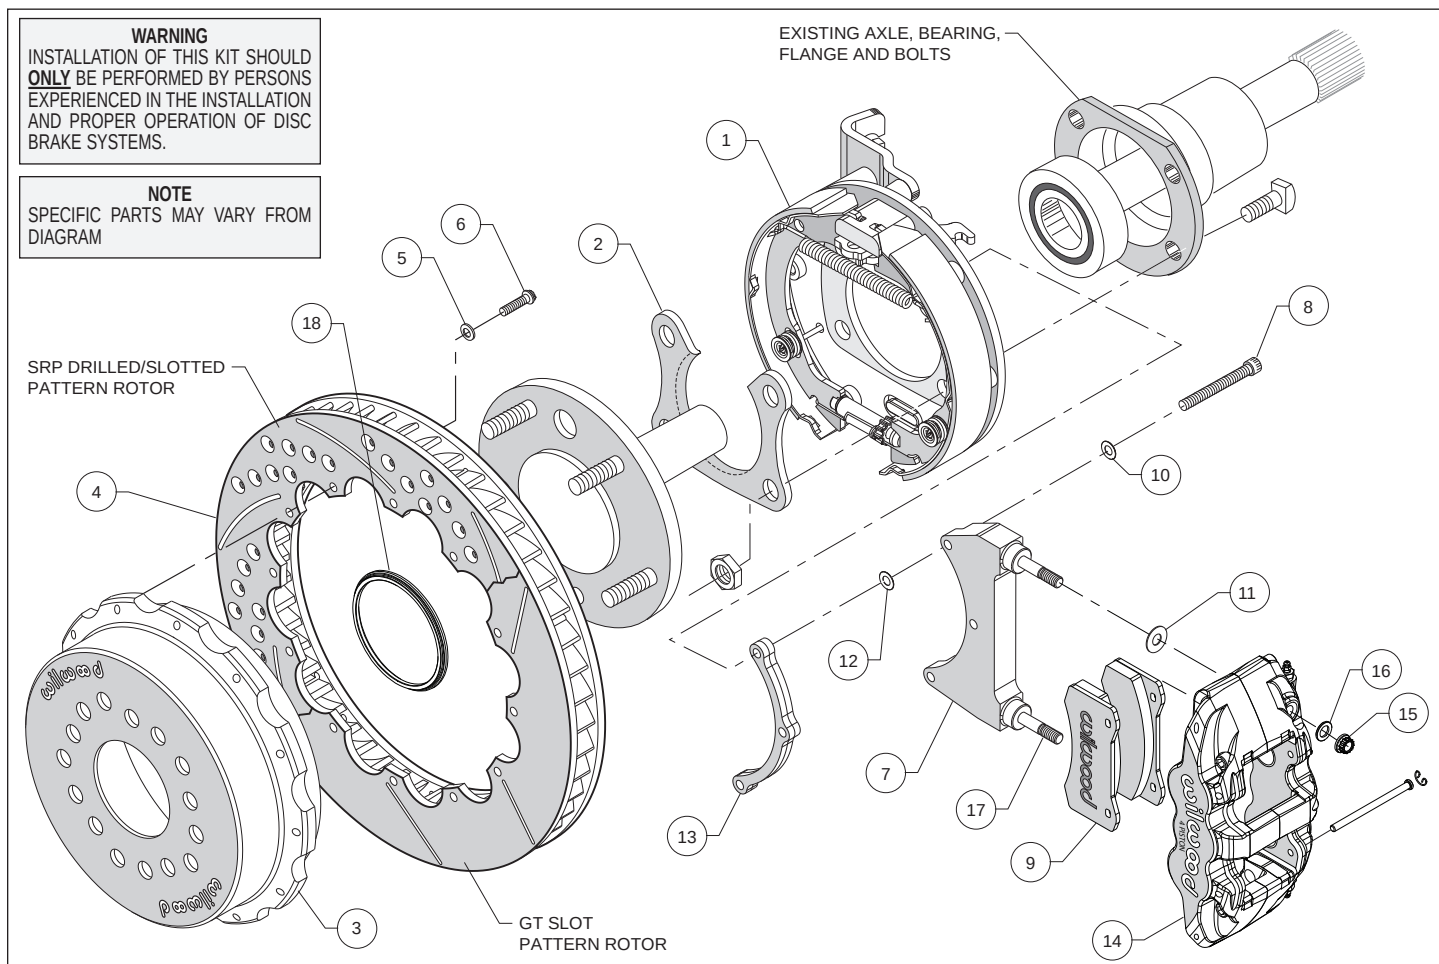

Figure 1. Typical Installation Configuration
- Orient the bracket assembly (1) as shown in Figure 1, and slide it onto the axle flange. Ensure that the bracket assembly backing plate fits flush against the housing flange. Insert the axle shaft into the axle housing.
- Install the bearing retainer (2) with the opening pointing upward and the lip facing inward (toward the bearing), as shown in Figures 1 and 4. Secure using the Original Equipment Manufacturer (OEM) bolts and nuts, Figure 1. Apply red *Loctite*® 271 to the OEM bolt threads and torque to OEM specifications
- Slide the rotor registration adapter (18) onto the axle register on the axle flange with the smaller O.D. facing toward the rotor/hat (3). Align the correct hole pattern in the hat with the stud pattern on the axle flange. **NOTE:** Some OEM and aftermarket axles come with stud sizes larger than 0.50" diameter. Verify stud size and have a qualified machine shop drill the hats to the correct size, if necessary. Slide the hat/rotor assembly (3 and 4) over the wheel studs covering the bracket kit assembly (1) and against the axle flange face. Check to be sure the hat seats squarely against the hub. Install three lug nuts (finger tighten) to keep the rotor/hat assembly in place while continuing with the installation.
- NOTE:** Please reference the caution statement at the beginning of the assembly instructions. The caliper mounting bracket assembly (7) should be installed first with clean, dry threads on the mounting bolts (8). Install the bracket from the rear side of the bracket kit assembly (1) by sliding bolt (8) through flat washer (10), bracket (7), shim washer (12) and finally through the spacer (13), see Figure 1. **NOTE:** End of bolt should not exceed inside face of insert. The bracket must tighten squarely against the back side of the bracket kit assembly (1). Inspect for interference from casting irregularities, machining ridges, burrs, etc. Use one thin shim (12) between the bracket (7) and spacer (13) during initial trial fitting.
- Lubricate caliper mounting studs and nuts with lightweight oil. Install one shim (11) over each pre-installed stud (17) on the radial mount bracket (7). Slide the caliper (14) in place over the studs and rotor, then install the washer (16) and lock nut (15) to hold the caliper in place. The caliper bleed screws should be pointing up. Snug the lock nuts (15) and check that the rotor (4) is centered in the caliper (14). Add or subtract .015" shims (12) as necessary between the caliper mounting bracket (7) and the spacer (13) to center the caliper (14).
- Remove the two pad retaining pins from the caliper (14) by carefully popping out the pin retaining clips and sliding out the pins. Insert the brake pads (9) into the caliper from the bottom, Figure 1. With the friction material facing the rotor, secure the brake pads in place with the pad retaining pins and clips. Reinstall the caliper onto the caliper mounting bracket and temporarily tighten the lock nuts. Check that the top of the brake pad is flush with the outside diameter of the rotor. If not, adjust by adding or subtracting shims (11) between the caliper and the bracket.
- Adjust the parking brake shoes outward (using a drum shoe adjustment tool available at your local auto parts store) while spinning the hat (3) until a slight drag is felt against the hat/drum. Remove the lug nuts that were holding the hat/rotor in place. Install the wheel and lug nuts. Check to see that the wheel rotates freely without interference.
- Once all clearances have been checked, remove the wheel, caliper, hat/rotor from the bracket kit assembly (1). Secure the caliper mounting bracket (7) to the bracket kit assembly (1) using red *Loctite*® 271. Torque bolts (8) to 180 in-lb. Reinstall the hat/rotor assembly and again use lug nuts to hold it in place. Reinstall the caliper, torque the caliper nuts (15) to 47 ft-lb.
- NOTE:** Clevis and cable kits which attach to the parking brake assembly are not included in the Wilwood parking brake kit. Wilwood offers a generic style parking brake cable kit, P/N 330-9371 for this application which can be ordered separately from your local Wilwood dealer or by calling Wilwood customer service at (805) 388-1188.